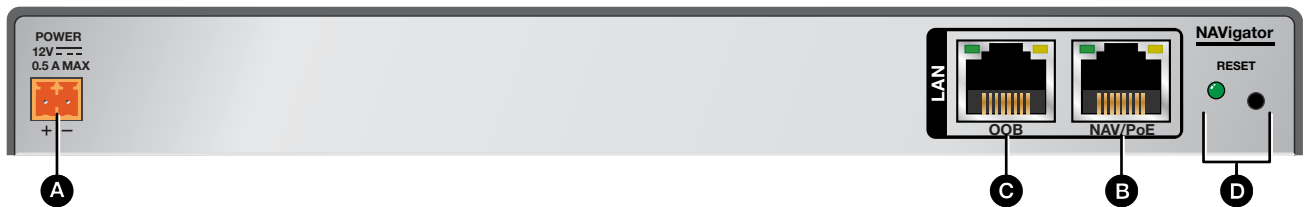

Figure 2. NAVigator Rear Panel Connectors and Features
- NAV/PoE port** (see figure 2 on page 4)— Connect this port to your A/V LAN network for control of the NAVigator, control of the A/V streaming network (NAV encoders and decoders), or both. Optionally, you can also power the NAVigator by inserting PoE through this port. **Streaming endpoints must be on the same network as the NAV/PoE port.**
The NAVigator can be controlled and operated through either the front panel CONFIG (USB) port (see figure 5, **A** on page 7) or the rear panel NAV/PoE port (see figure 2, **B** on page 4) or OOB port (**C** on page 5). The Configuration port uses IP over USB technology. The factory-embedded pages are always available and cannot be erased or overwritten.